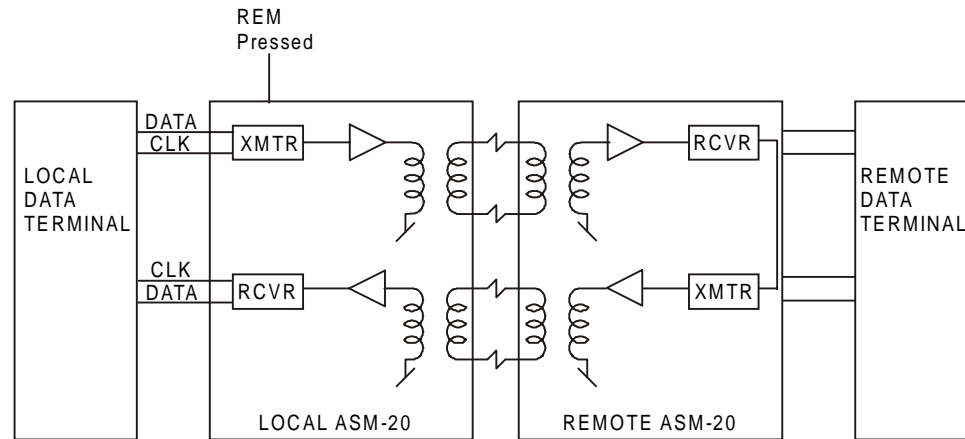

Figure 4-4 Remote ASM-20 in Digital Loopback
1. Press the REM (Remote Loopback) push button, providing a loopback at the remote ASM-20 (see *Figure 4-4*). (This test can also be activated via the pin on the DTE interface.) The TEST LED should light up at both the local and remote units.